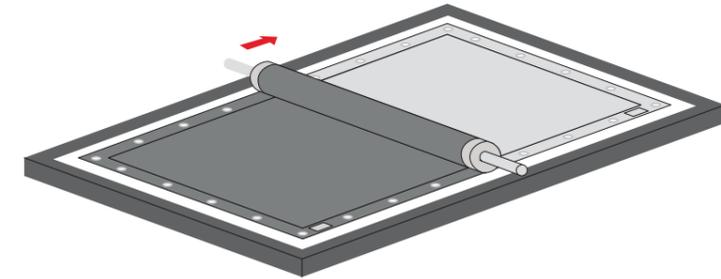

figure 4
1. Put the whole frame upside down and then unwrap the screen fabric (avoid scraping the fabric when unwrapping) (figure 4).